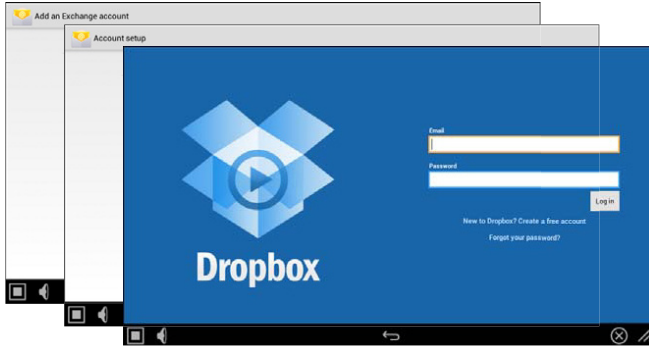

FIG. 77 Example account windows
3. Follow the instructions in each window for each account (FIG. 77). G5